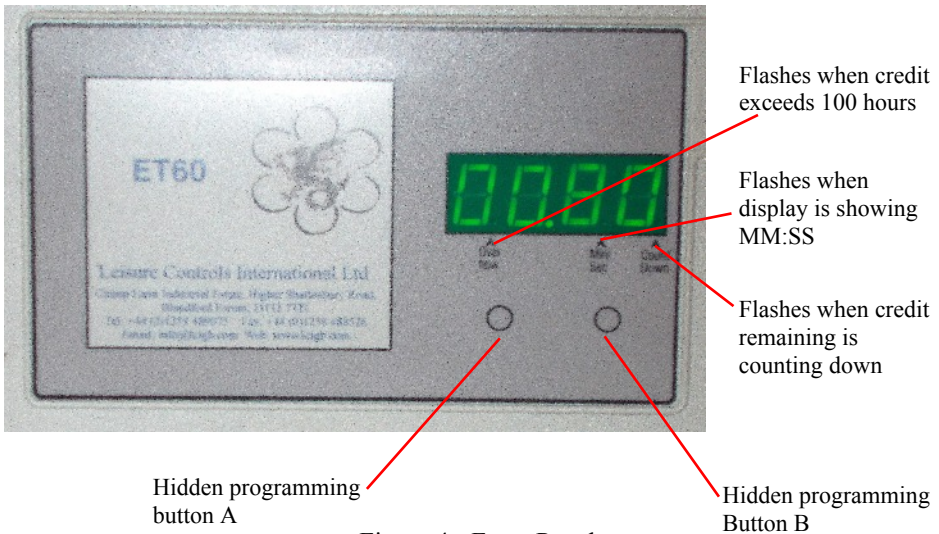

Figure 4 - Front Panel
- (1) The 4 digit 7 segment display, in conjunction with the hidden programming buttons, is used to program the ET60, as well as showing time remaining and mode of operation (see Figure 4).
- (2) The coin entry accepts tokens or 10p, 20p, £1, €½, €1 coins.
- (3) The optional key over-ride switch turns the timer output on permanently.
- (4) Access for installation is via the cover lock.
- (5) Cash box holding 100 coins.
- (6) Hidden programming buttons (page 3).
To access service mode remove the coin box, press and release button B (Figure 4) to step to the desired setting number (St.01 to St.10). Simultaneously pressing and releasing both buttons A and B will step back to the previous setting. On reaching the required setting number press button A to enter desired values.
Insert coin/token. The display will briefly show 'Coin'. The display will then show the remaining credit. If the credit is greater than one hour it will be displayed in hours & minutes, e.g.; 2 hours will be displayed as '02:00'. If the credit is less than one hour it will be displayed in minutes & seconds, e.g.; 40 minutes will be displayed as '40:00' and an indicator will flash on the display to show this (Figure 4).